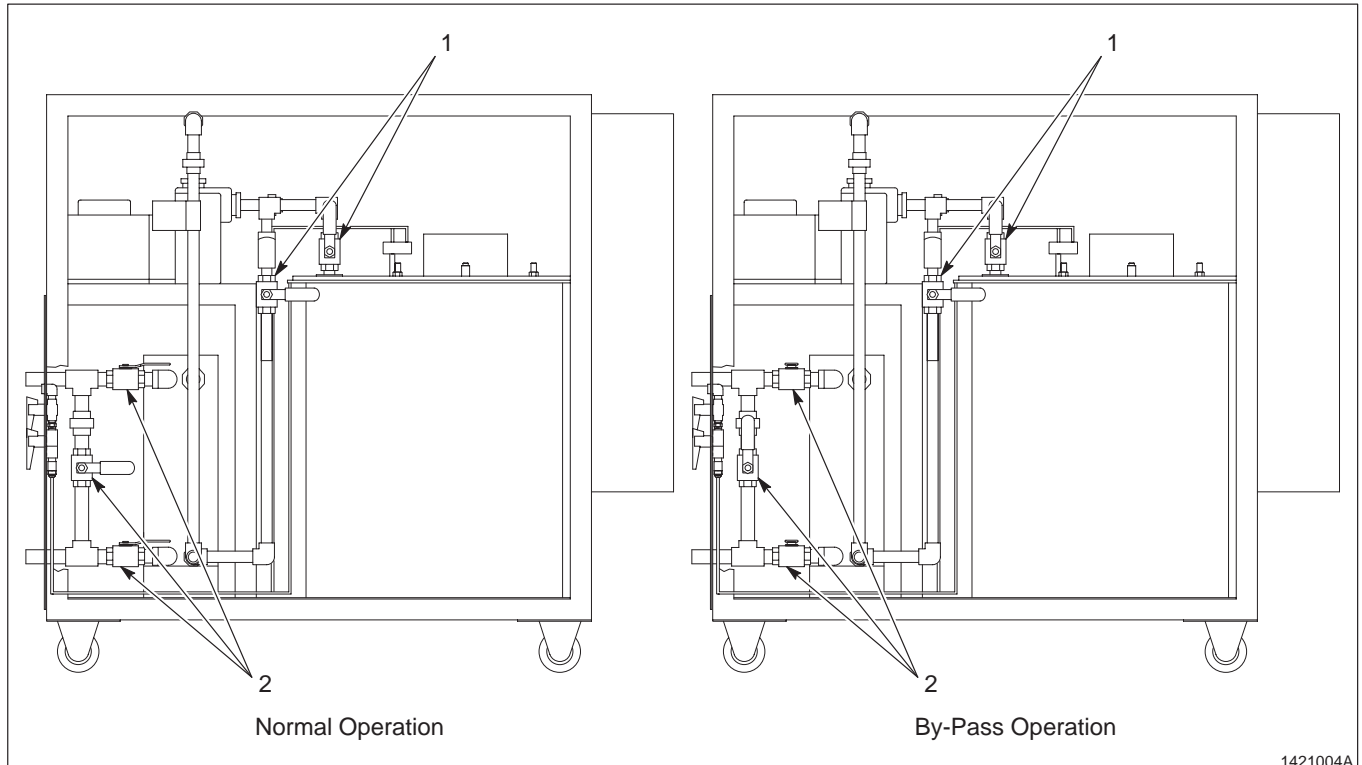

Fig. 4 Main cabinet, chilled water ball valve and empty ball valve positions
5. Check the chilled water ball valve positions (see Figure 4 (2)). Set to normal operating position.
6. Check the empty ball valve positions (see Figure 4 (1)). Set to normal operating position.